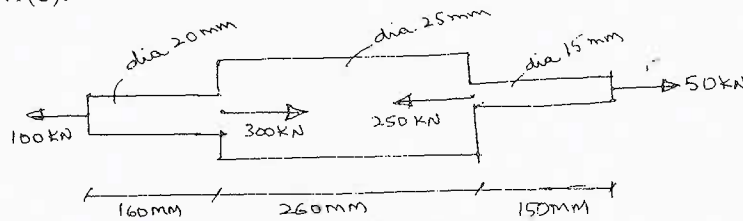

Fig.Q.1(b)
b. Determine the net elongation of a circular bar of varying cross-section subject to forces as shown in Fig.Q.1(b). (08 Marks)